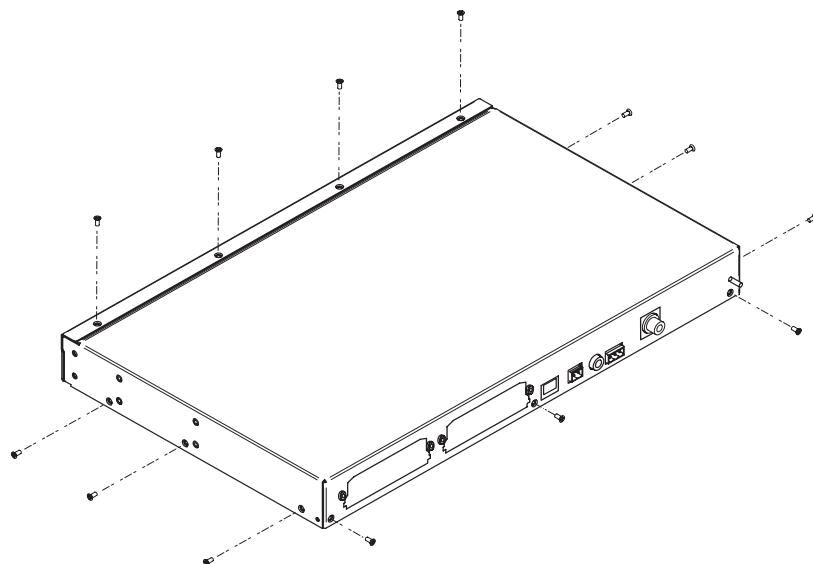

Figure 1. Removing the Cover Screws (TRACER 6420)
2. Remove the screws from the chassis cover using a Phillips-head screwdriver (see Figure 1).